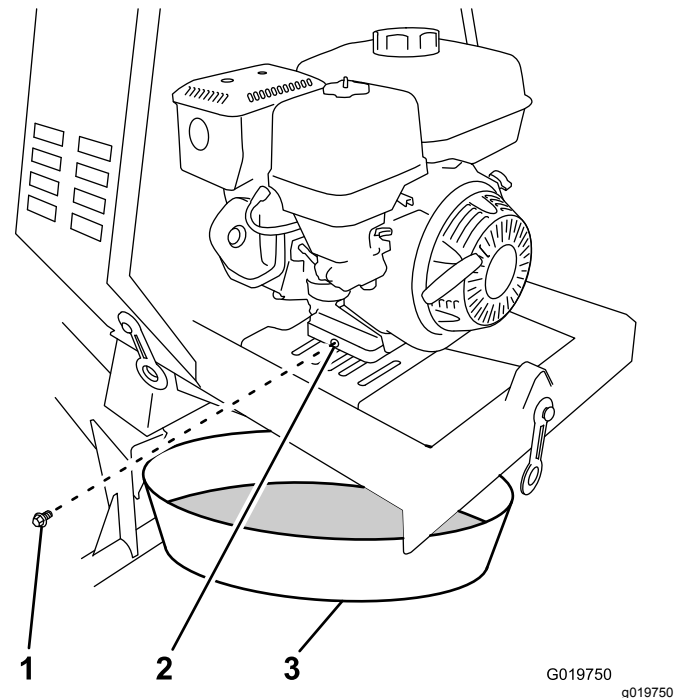

Figure 45
3. Place a drain pan under the oil-drain hole of the engine (Figure 45).
4. Remove the drain plug and catch the oil in the oil-drain pan (Figure 45).
5. When the oil has drained completely, install the drain plug with a new washer (Figure 45).